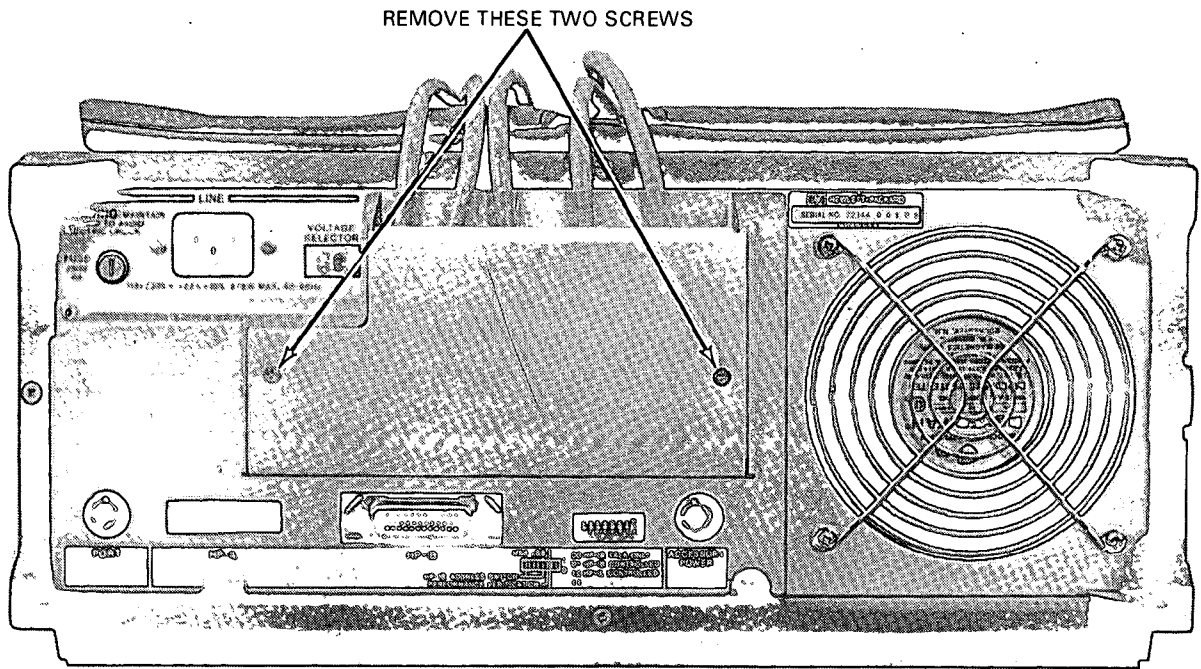

Figure 3.
- 4) Remove screws indicated in figure 3 and remove the rear door.